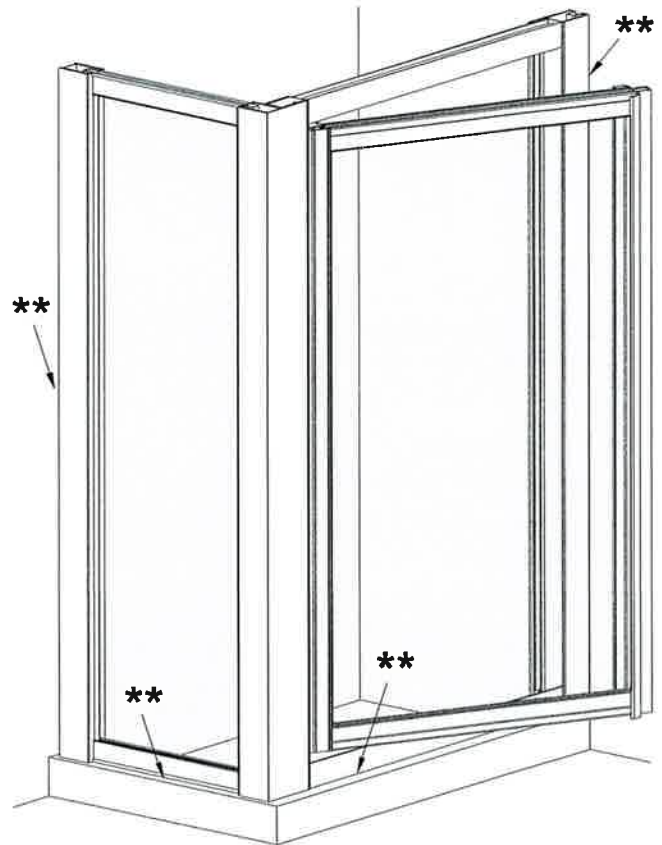

figure 6
**Run a bead of clear mildew resistant caulking around the outside of shower enclosure where shower unit meets the shower base and where Wall Jamb meet wall (see figure 6).